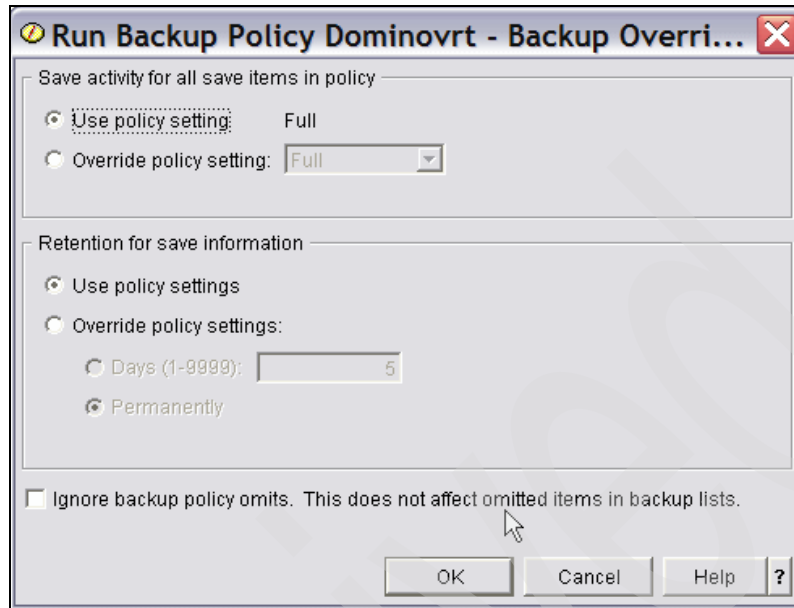

Figure 5-66 BRMS run Domino backup, overrides
2. Since there are no backup overrides, click **OK** in the window shown in Figure 5-66 on page 252.